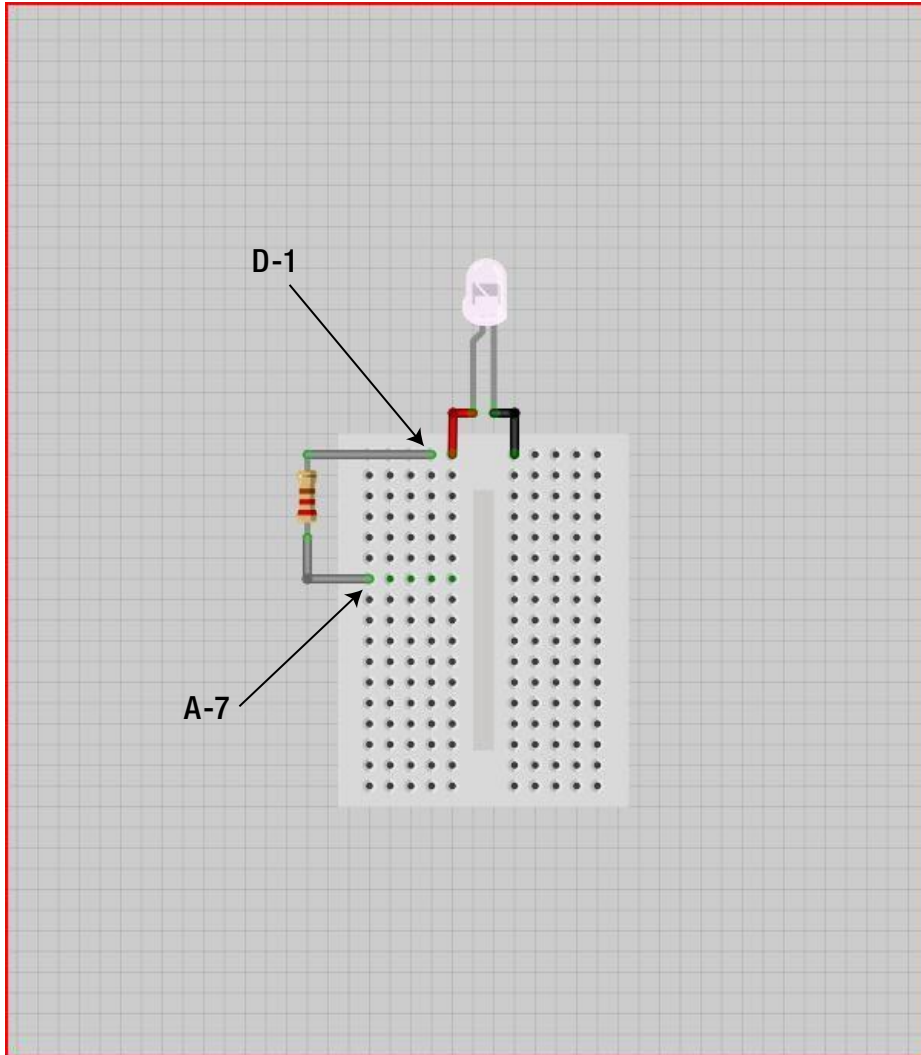

Figure 7-6. Attach the resistor to the solderless breadboard
3. Add a 330 ohm resistor by inserting one of its legs into D-1 and the other leg into A-7. Figure 7-6 illustrates this process. Remember that all the pins in Row 1 are connected inside the breadboard. The resistor leg in D-1 thus connects to the LED leg in E-1.